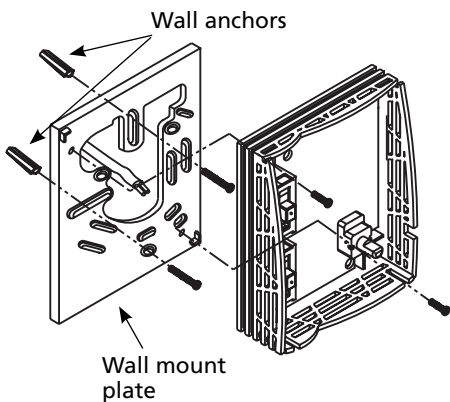

Figure 6
4. Drill holes in the wall through the 2 mounting holes in the back of the wall plate as shown in Figure 6 and insert anchors into the holes.